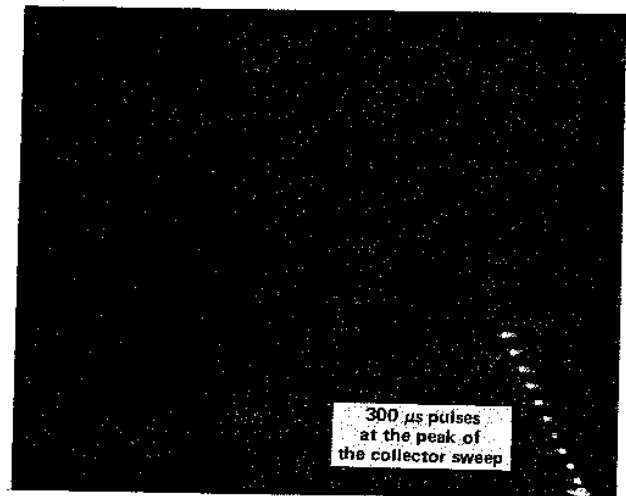

Fig. 12. Illustration of step 14 ( $300 \mu\text{s}$  PULSED)
12. Note that the collector supply has switched to DC and each step is a short duration ( $300 \mu\text{s}$ ) pulse (see Fig. 12). Turn the VARIABLE COLLECTOR % control slowly counterclockwise and note that the curve is traced and stored (with D1 Display Unit).